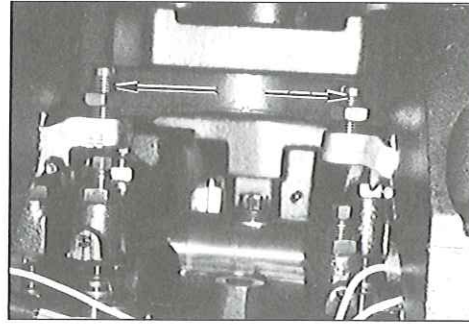

FIG. 19
1. Back out the leveling screw (Fig. 19) in the slave piston assembly until the end of the screw is beneath the surface of the bridge in the slave piston assembly.